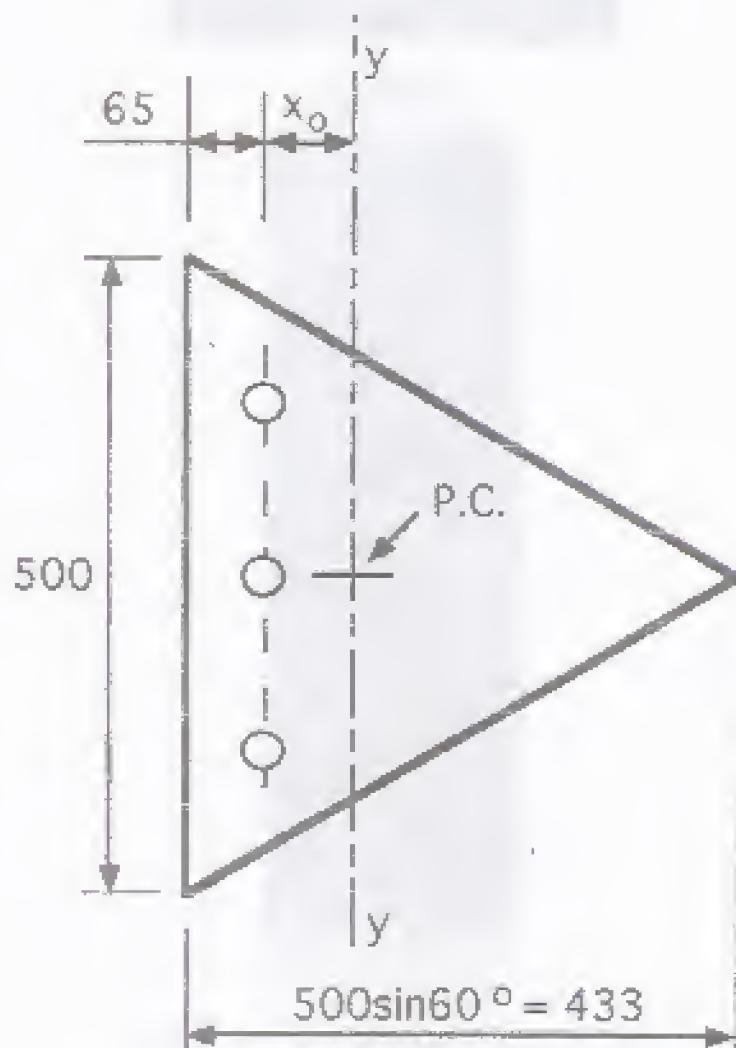

Fig. 1
3. An equilateral triangular column cross section (Fig. 1) has $f'_c = 30$ MPa (normal density concrete and is reinforced with 3 - No. 25 bars ($f_y = 300$ MPa)). Small diameter confinement bars (not shown in the figure) and ties provide the necessary confinement to the concrete to satisfy A23.3-94 requirements for columns; however, these confinement bars are *not* to be considered in any calculations. Any bending is to be considered about the y-y axis only.
3. An equilateral triangular column cross section (Fig. 1) has $f_c' = 30 \text{ MPa}$ (normal density concrete and is reinforced with 3 - No. 25 bars ($f_y = 300 \text{ MPa}$). Small diameter confinement bars (not shown in the figure) and ties provide the necessary confinement to the concrete to satisfy A23.3-94 requirements for columns; however, these confinement bars are *not* to be considered in any calculations. Any bending is to be considered about the y-y axis only.
3. An equilateral triangular column cross section (Fig. 1) has $f'_c = 30 \text{ MPa}$ (normal density concrete and is reinforced with 3 - No. 25 bars ($f_y = 300 \text{ MPa}$). Small diameter confinement bars (not shown in the figure) and ties provide the necessary confinement to the concrete to satisfy A33.3-94 requirements for columns; however, these confinement bars are not to be considered in any calculations. Any bending is to be considered about the y-y axis only.